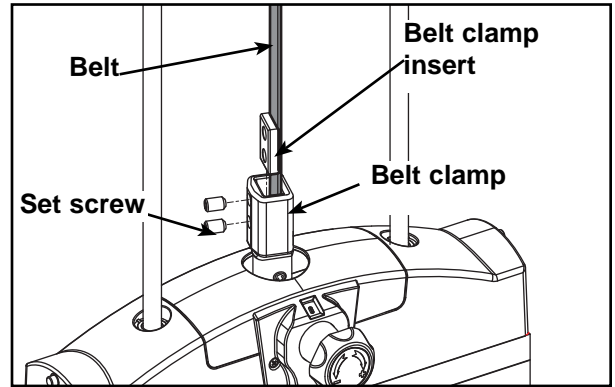

Figure 9
- F. Pull belt tight and secure belt to clamp with the set screws. **NOTE:** Torque set screws 300-350 in./lbs. Figure 9.